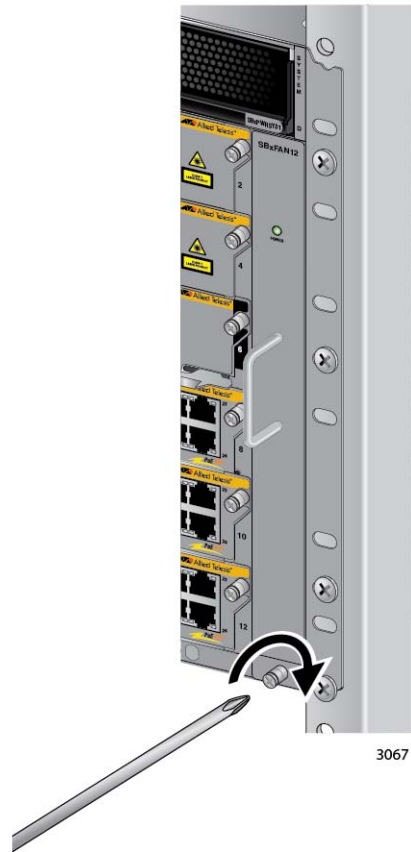

Figure 183. Tightening the Screw on the AT-SBxFAN12 Fan Module
3. With a #2 Phillips-head screwdriver, tighten the screw at the base of the module to secure the module to the chassis. Refer to Figure 183 on page 287.